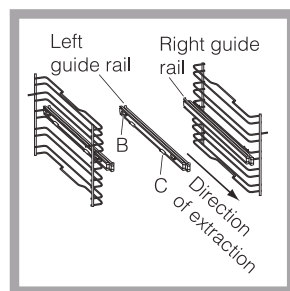

Figure 1.
- › Choose which shelf to use with the telescopic runner. Pay attention to the direction in which the runner is to be extracted, position joint 'B' and joint 'C' on the frame (see Fig.1).